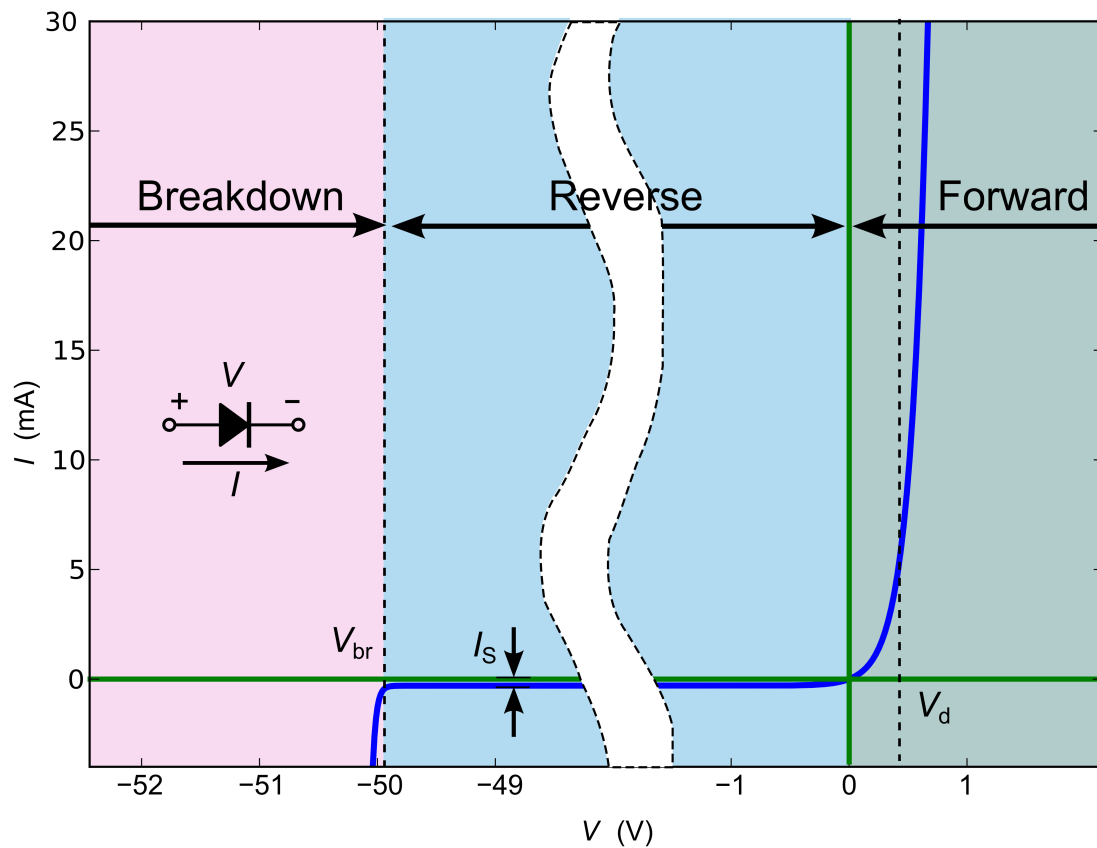

Figure 1: Diode characteristics
A diode is a semiconductor device that has two terminals, an anode and a cathode. These terminals are represented by (-) for the cathode and (+) for the anode on the diagram in Figure 1. Diodes are made out of n-doped and p-doped semiconductors. Visit this PhET simulation for a good example of how these work.
2. Measure the current I and the voltage across the diode (V_{out}) for different values of V_{in} from -3 V to $+3\text{ V}$. You need to use the DMM to measure the voltage across the diode. To maximize accuracy, you would use another DMM to measure current. But reading the current directly from the power supply is fine. Be sure to take many data points (at least 10) to map out the characteristic curve of the diode, with a few extra points around V_{in} of $0.6\text{--}0.9\text{ V}$. How does the result compare with your predictions from section 8.1.1? How does your plotted data compare with Figure 1?